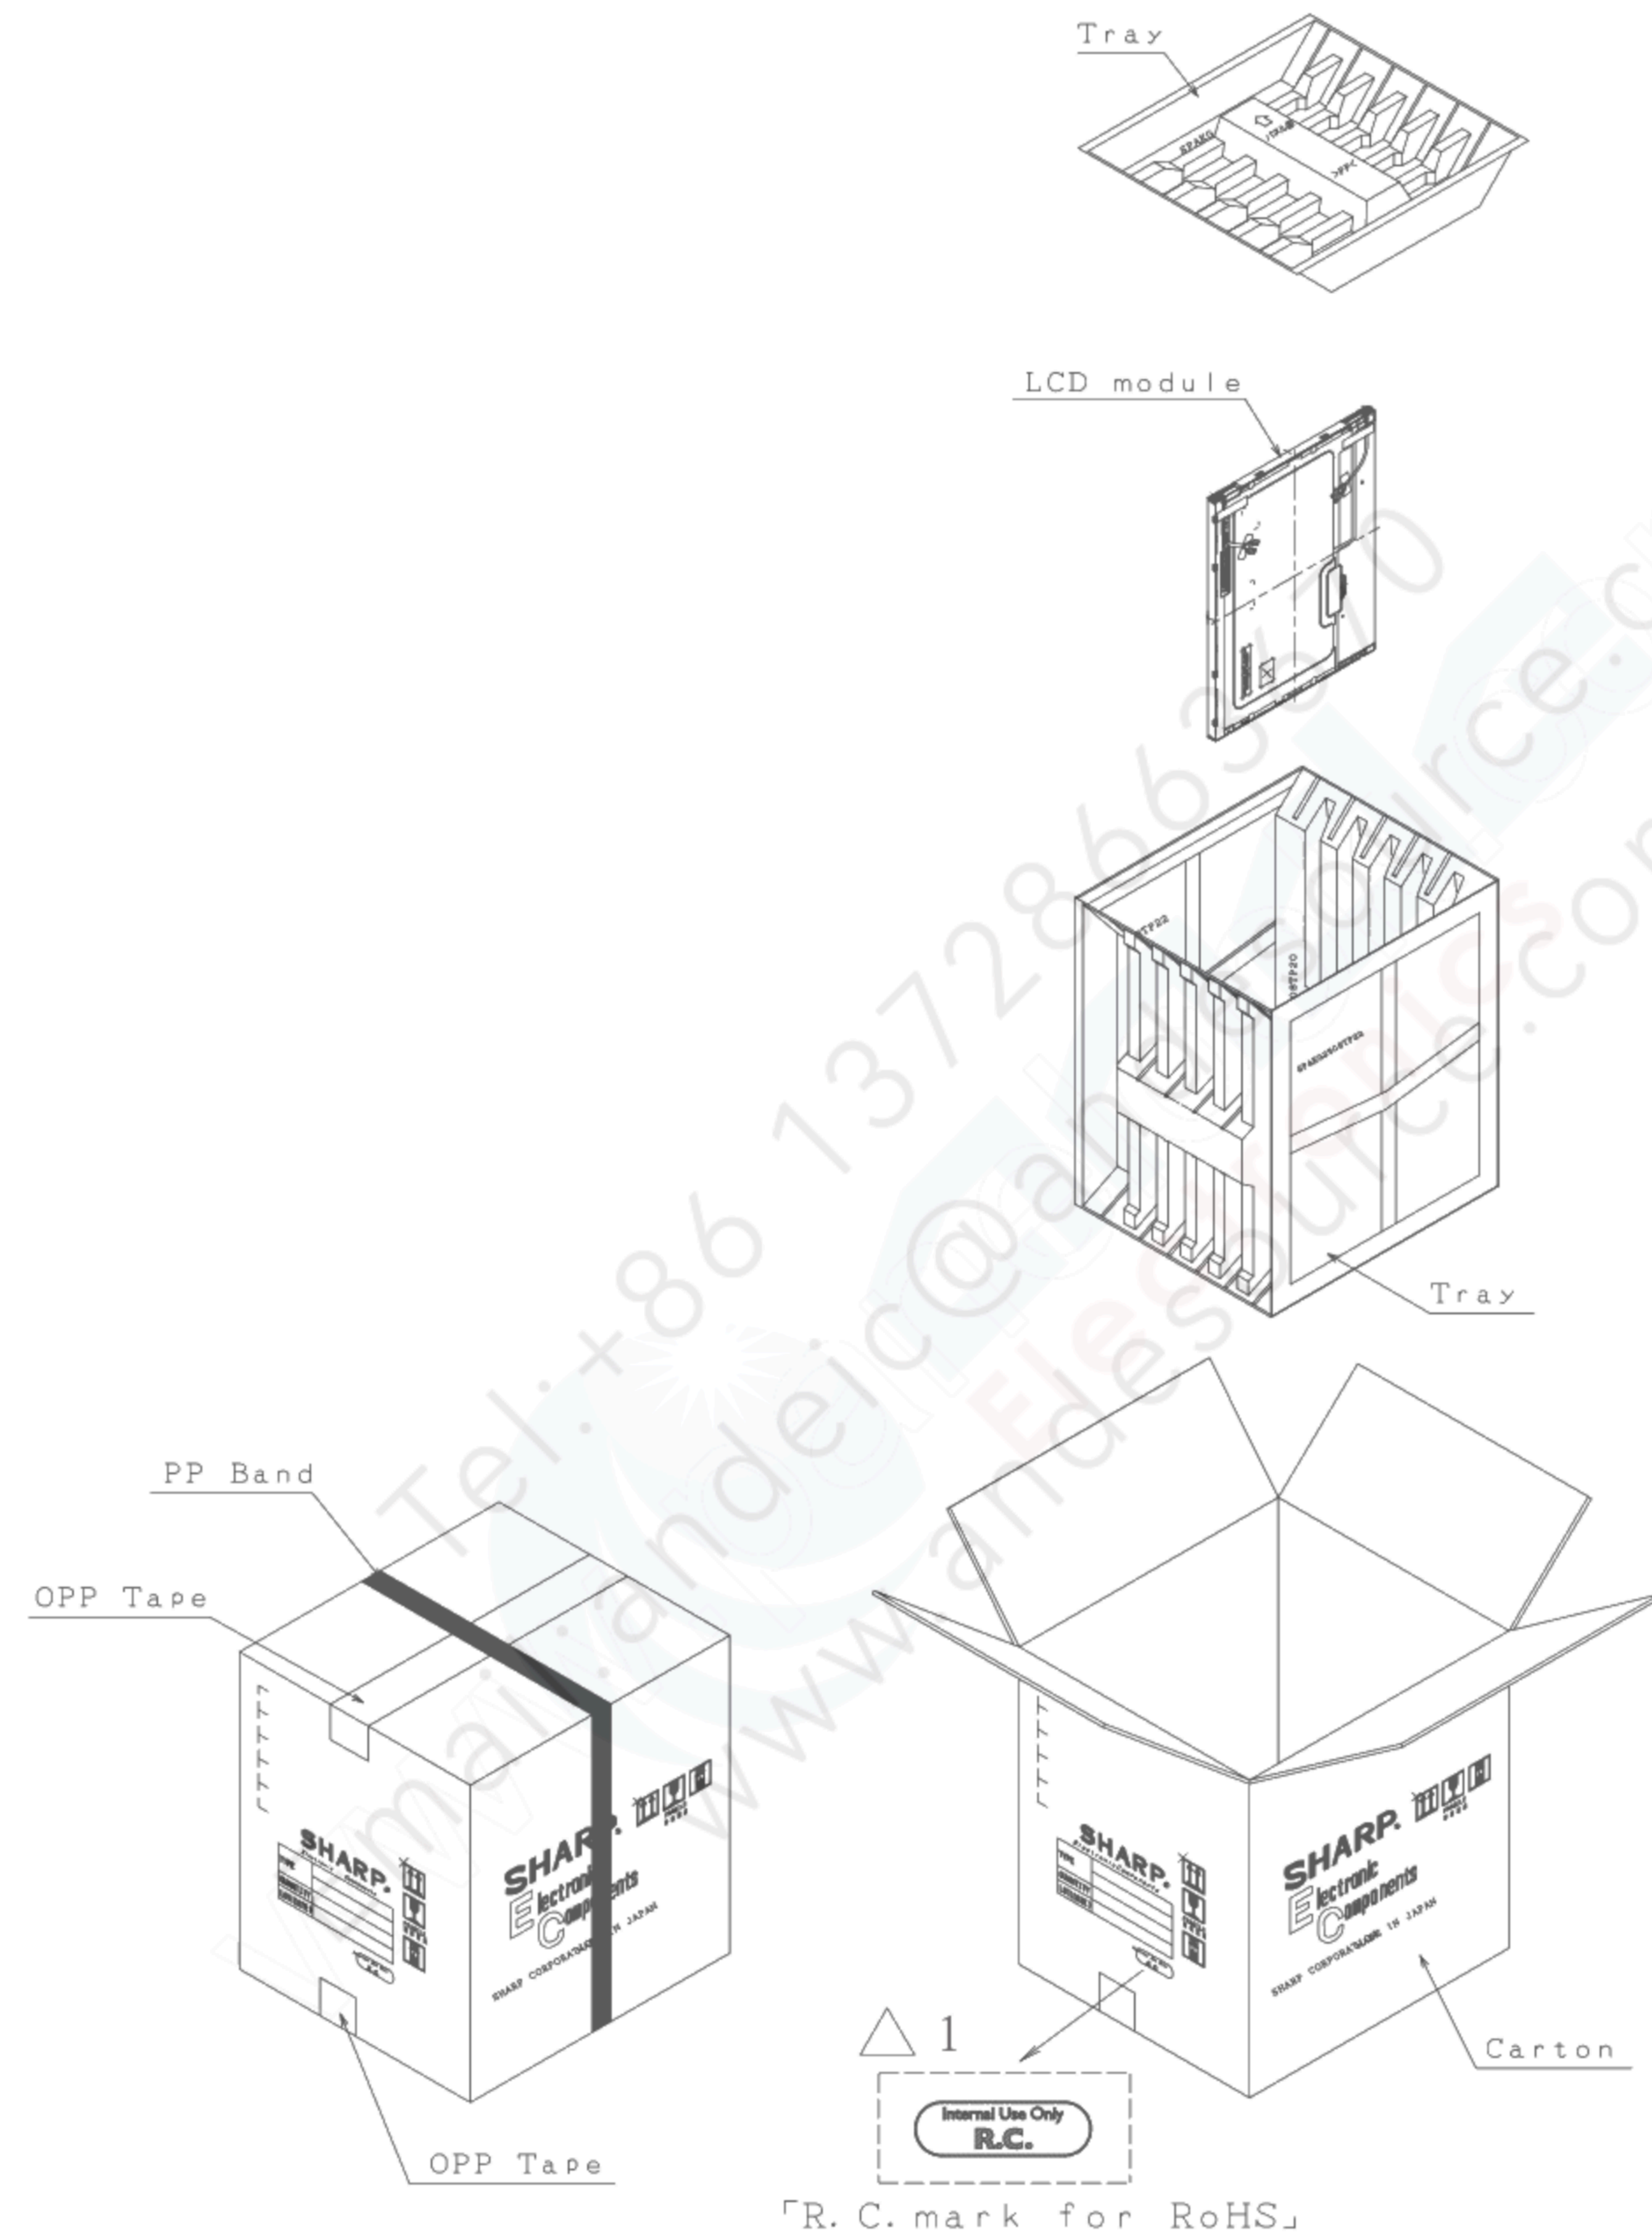

Fig 3: PACKING FORM
- e) Packing form is shown in Fig.3